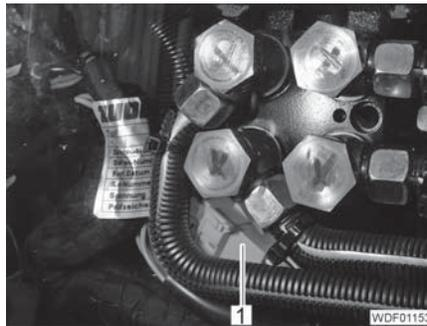

Fig. 439 Electrical connection
- Disconnect the plug (Fig. 439,1).
- Connect the plug (Fig. 439,1).